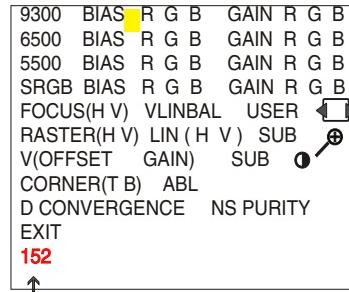

Fig. 2.2
- Bring up the "function adjustment" as shown in Fig. 2.2.
- Press " " or " " button for function selection as shown in Fig. 2.2.